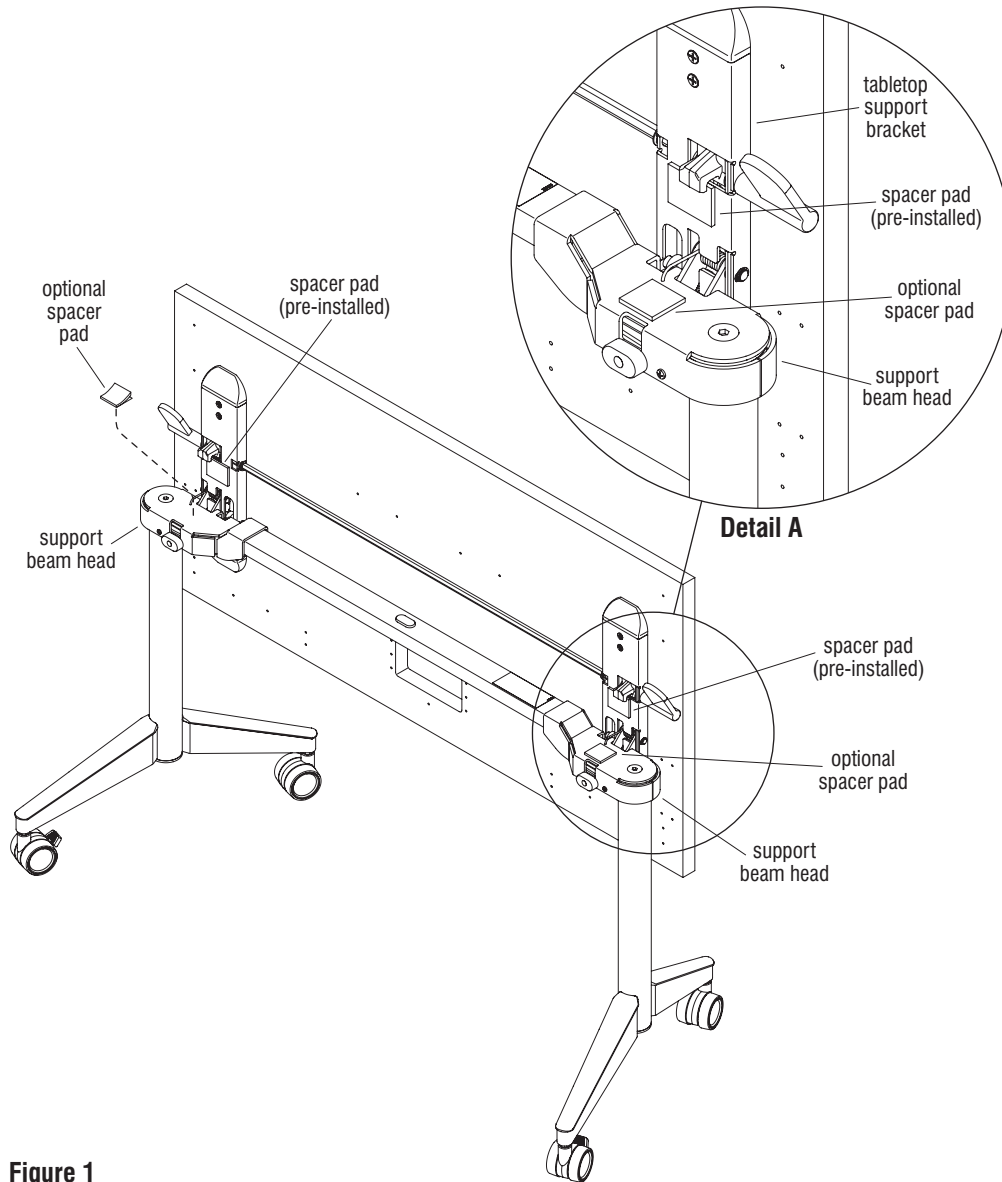

Figure 1
1. Flip the tabletop lock paddles up and adjust the Pirouette Table to the upright nesting position (Figure 1).
3. Remove the backing from the optional spacer pad. Apply the spacer squarely to the desired location (Figure 1 & Detail A).